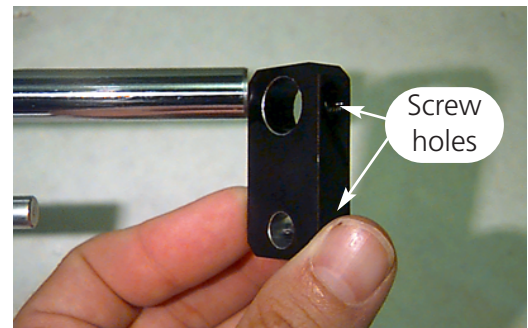

Figure 5-17
2. Loosen the 2 screws holding the rear support bracket using the 2mm hex wrench (see Figure 5-17). Remove the rear support bracket.